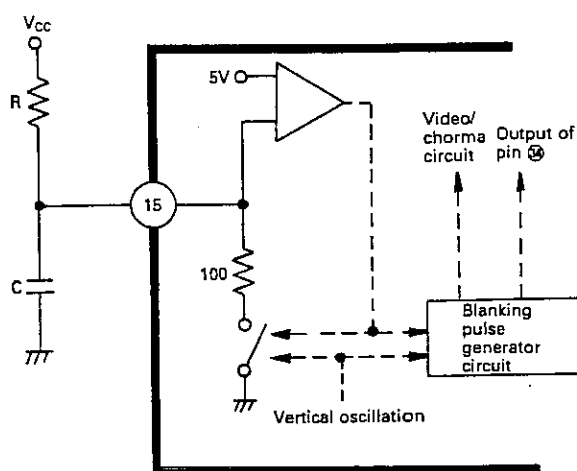

Figure 29-1.
Fig. 29-1. shows the vertical blanking pulse generator circuit. When the vertical oscillator circuit starts to discharge itself, the switch SW in the vertical blanking pulse generator circuit is opened to charge pin ⑮ through the capacitor and resistor externally connected to this pin, thus to initiate the blanking operation. As charging at pin ⑮ proceeds and its voltage reaches about 5V, the switch SW is closed to terminate the blanking operation. The blanking operation starts in timing with the rising edge of the vertical sync output and how long it lasts is decided by the time constant of the capacitor and resistor in connection with pin ⑮.